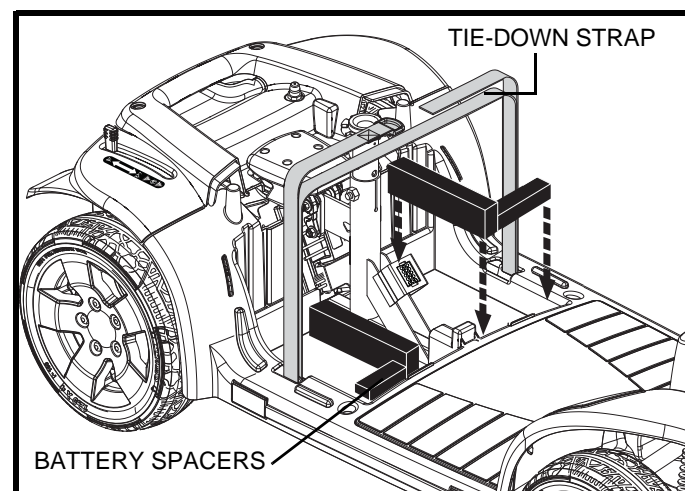

Figure 23. Battery Spacers
**NOTE:** If spacers are installed to secure the batteries, remove the spacers for safe keeping until the scooter is reassembled. See figure 23.
6. Reinstall the battery spacers if applicable. **See figure 23.**